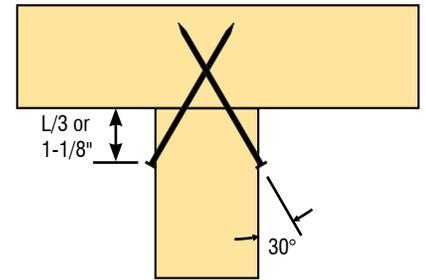
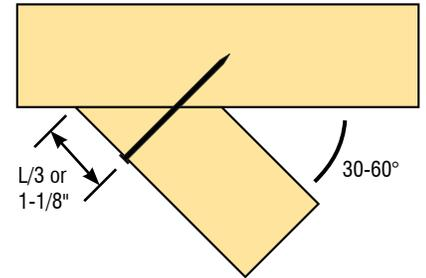

FIGURE B8-9 End jack to hip Girder Truss
FIGURE B8-10 Corner jack to corner Girder Truss
- ✓ Table B8-3, page 67, provides the nominal lateral design capacity of Toe-nailed Connections consisting of two-, three-, and four-nails for various types of nails and species of wood. The capacities listed are for Toe-nailed Connections attaching the Top and Bottom Chords of a 2x_ end jack Truss to a single or multiple 2x_ hip Girder Truss (Figure B8-9, page 67) or for the Toe-nailed Connections attaching the Top and Bottom Chords of a 2x_ corner jack Truss to a corner Girder Truss that intersect at angles from 30° to 60° (Figure B8-10, page 67).
Note: The nails for these Connections are assumed to be installed at either $L/3$ (i.e., length of nail divided by 3) or 1-1/8" from the end of the jack Truss (Figures B8-9 and 10, page 67). Also, the Connection between the corner jack and corner Girder Truss assumes that the nails are driven normal to the face of the jack into the Girder Truss as depicted in (Figure B8-10, page 67).
- b. Nominal lateral capacities are based on framing conditions depicted in Figures B8-9 and 10.